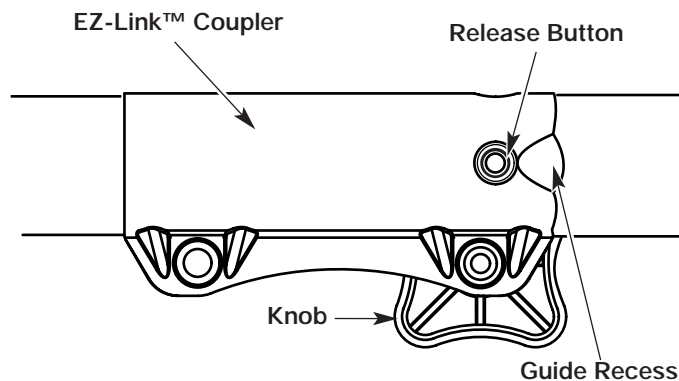

Fig. 9
- NOTE:** Aligning the release button with the guide recess will help installation (Fig. 9).
1. Turn the knob counterclockwise to loosen (Fig. 9).
2. Press and hold the release button (Fig. 9).
1. Turn knob counterclockwise to loosen (Fig. 9).